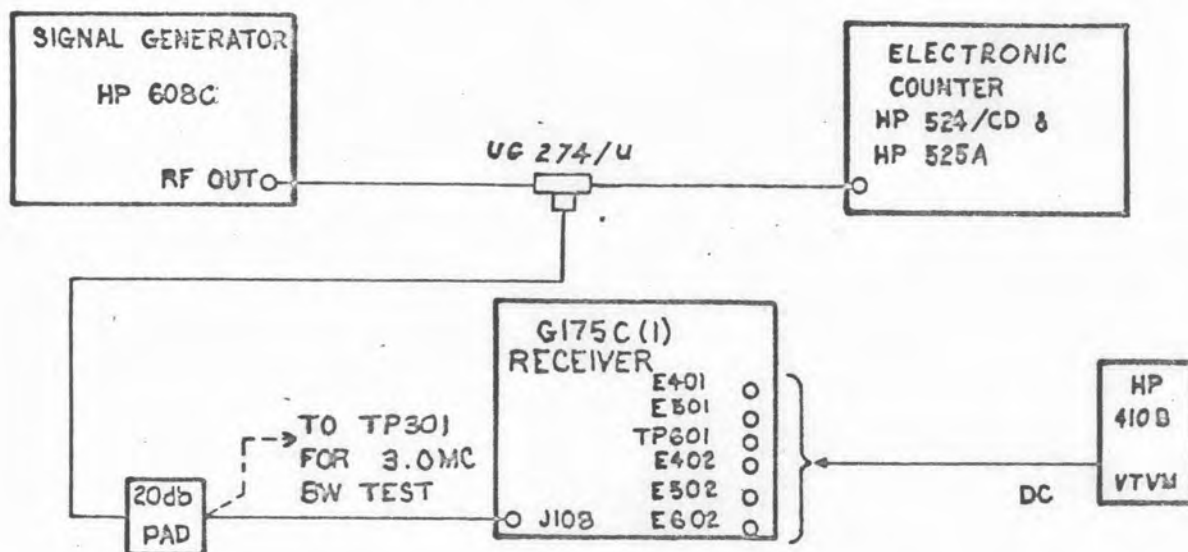

Figure 5-20
- a. Connect equipment as shown in figure 5-20.